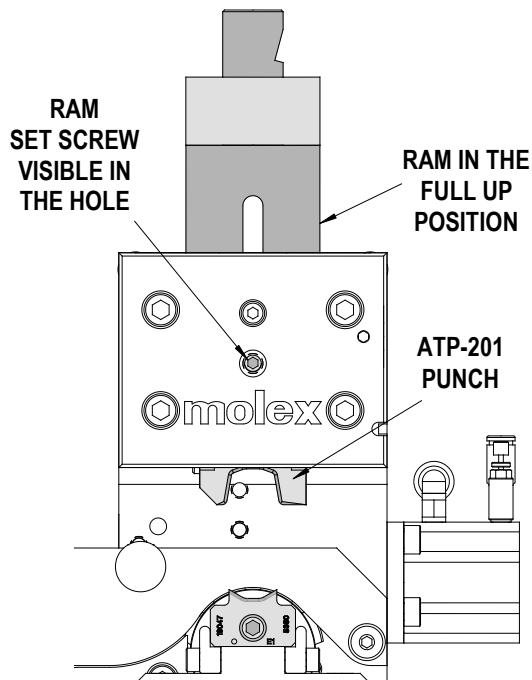

Figure 2-8
3. To remove the punch assembly, use a 3mm hex wrench to loosen the set screw on the front of the ram. This screw is accessible through the module's front cover. See Figure 2-8.